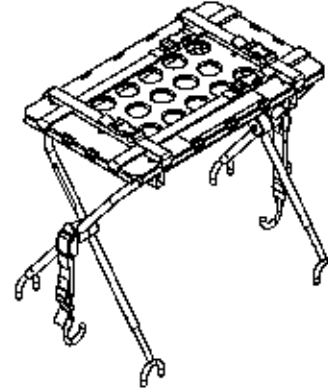

Figure 80
2. Open and expand the defibrillator platform legs as shown in Figure 80.